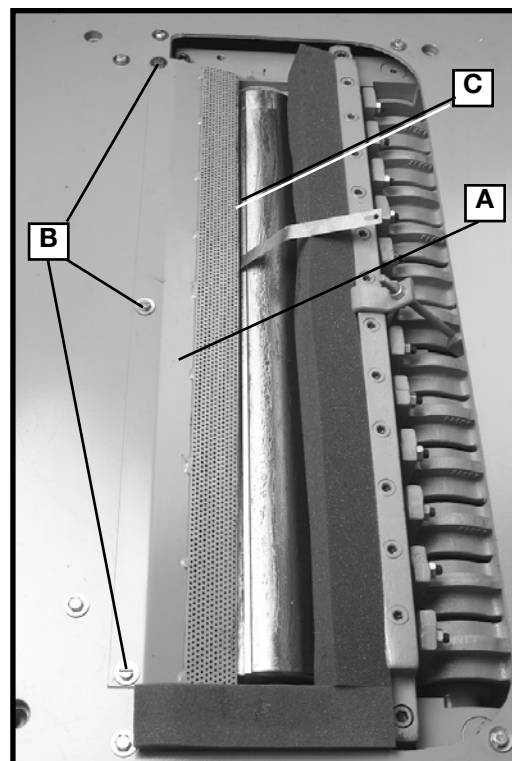

Fig. 38
3. The edge (C) of the chip deflector (A) Fig. 38, should be adjusted so it is a minimum of .040" and a maximum of .080" away from the cutting circle. Place a feeler gauge between the knife and the edge of the chip deflector as shown in Fig. 38. If an adjustment is necessary, loosen three screws (B) and move chip deflector.